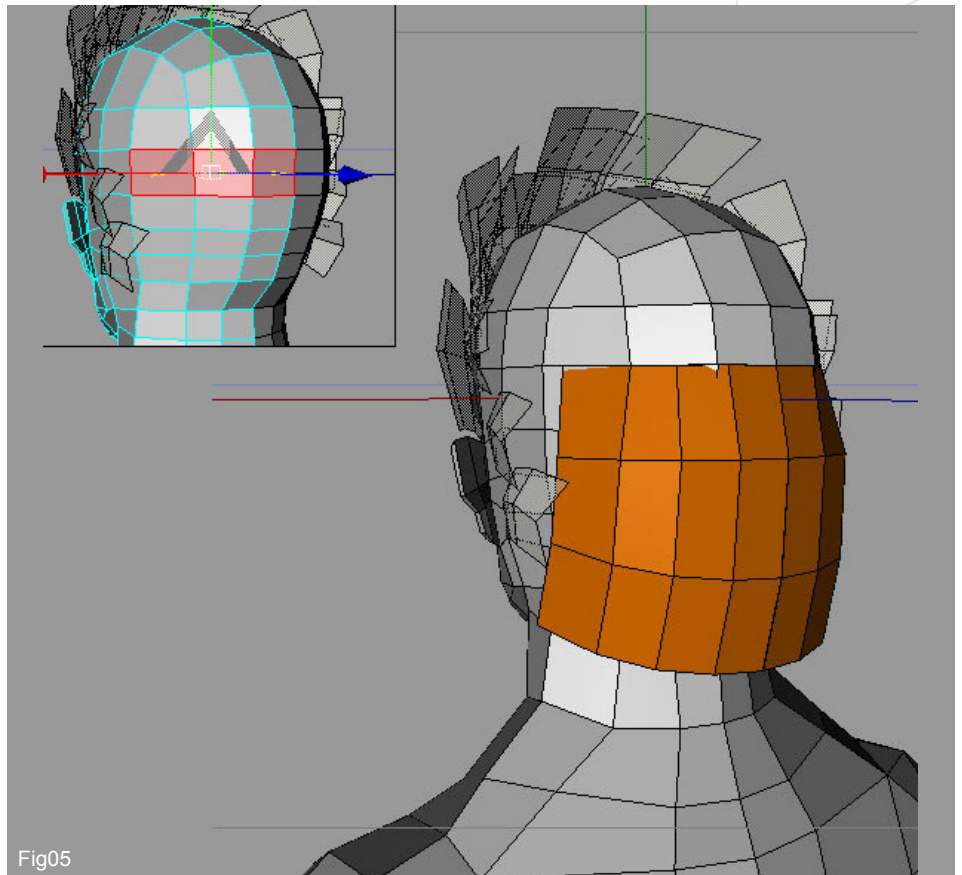

Fig05
5. Now we have to build the back section of the hair. In Fig05 you can see a large orange piece of geometry that has been positioned. To obtain these polygons split from the body the selected poly's like shown in the top left of figure. Then extrude the bottom edges three times and add a vertical cut to define the shape better.